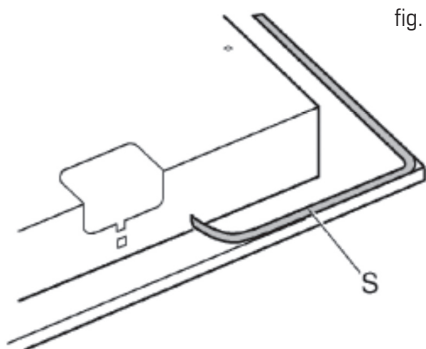

fig. 3
- Turn the appliance upside down and fit gasket (S) around the outer edge (fig. 3).